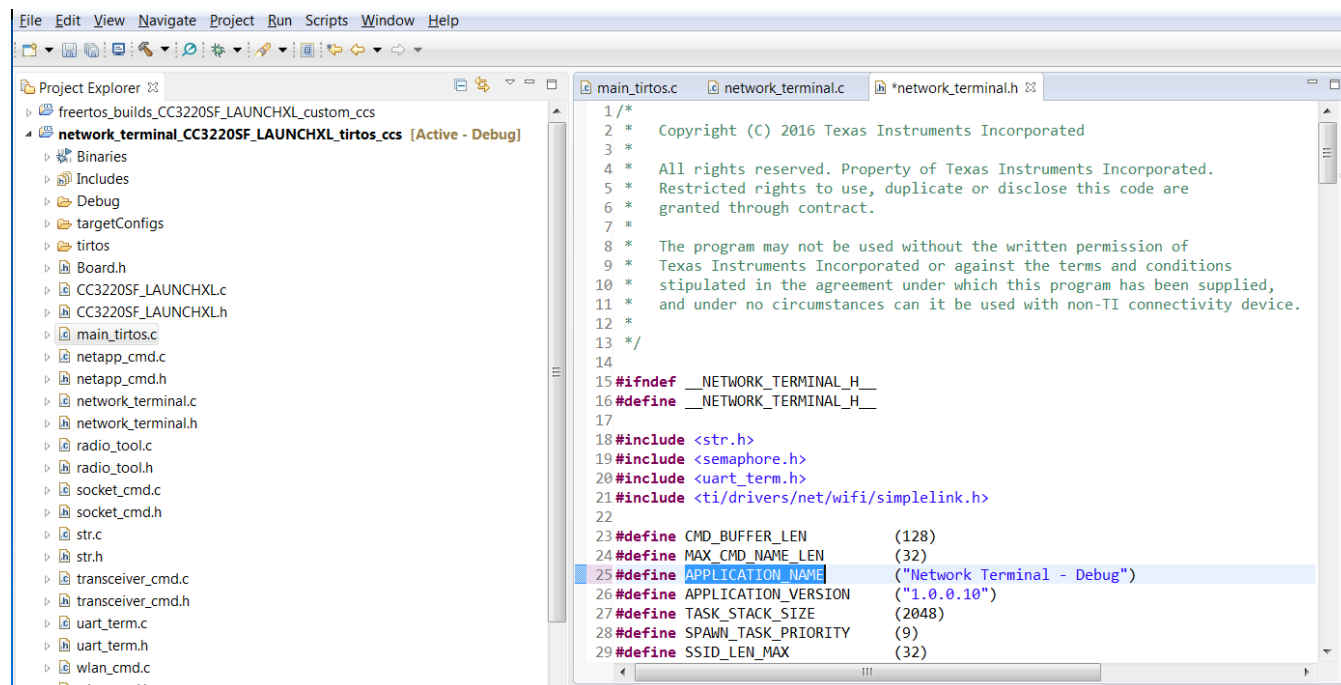

Figure 4-2. Application Name Definition
1. In order to differ the debug application from the one programmed to the flash, it is possible to make a simple change to the application name before it is rebuilt. The Application name is defined in "network_terminal.h" - see in Figure 4-2. The change will be reflected in the first lines of the serial output.